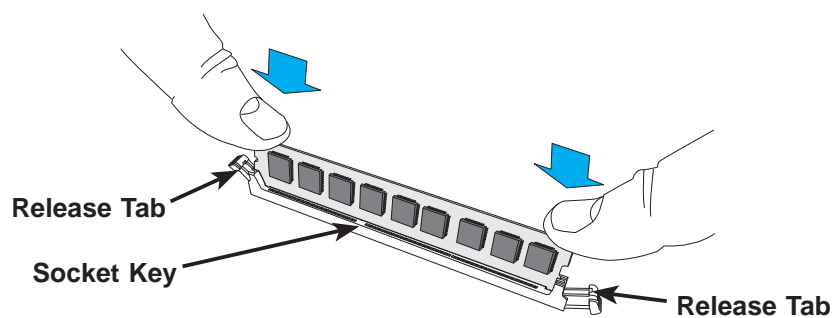

Figure 5-4. Installing DIMM into Slot
6. Press the release tabs to the lock positions to secure the DIMM module into the slot. See Figure 5-4.